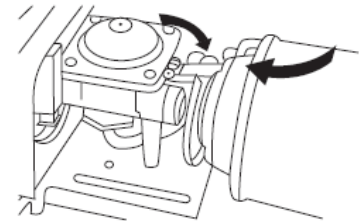

Fig. 2
2. Open the cartridge cover: slide the gas cartridge, top end first and with its notch up, into the compartment. Align the notch with the loading guide in the compartment. (Fig 2)